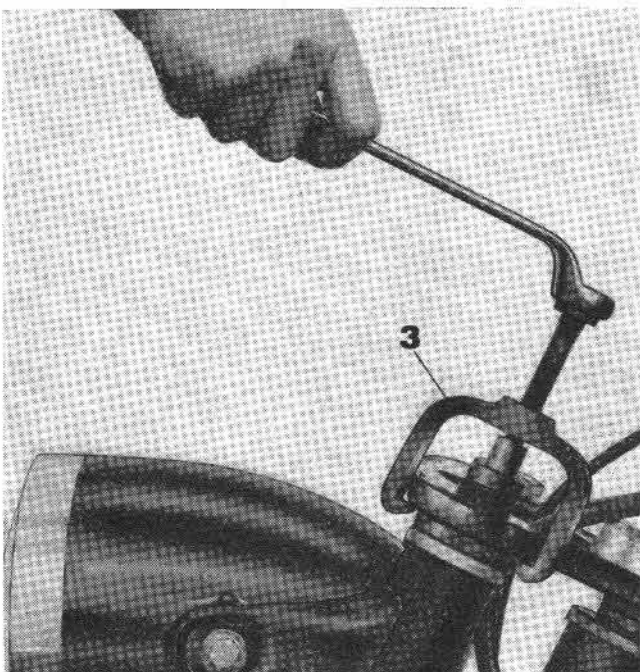

Fig. 96
- remove top linking plate, by means of ring wrench and tool No. 60910500 (see 3 on Fig. 96).